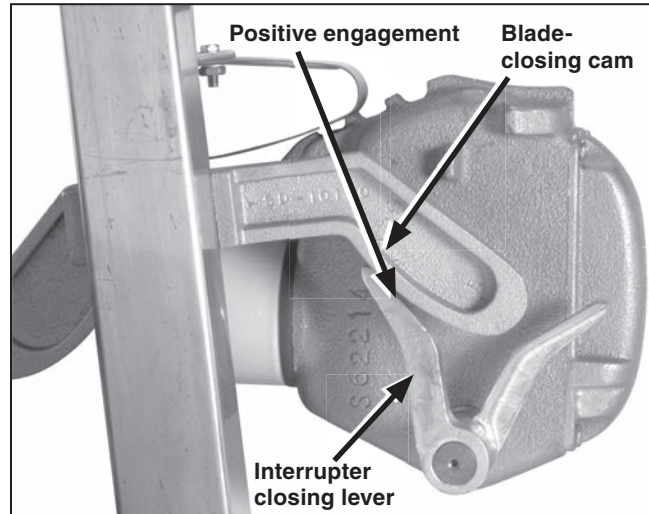

Figure 36. Blade assembly moving in closing direction.
- (a) As the blade assembly moves in the closing direction, each blade-closing cam must make positive engagement with its respective interrupter closing lever. See Figure 36.